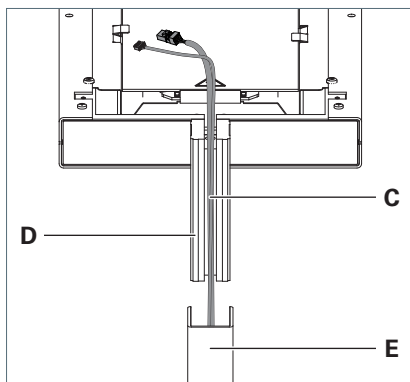

Fig. 13: Mounting the light head on the column.
- Guide the cables **C** from below into the groove in the support arm **D** at the light head and insert the support arm completely into the column **E**, see Fig. 13.